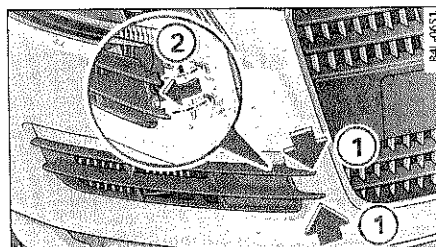

Fig. 320 Right front bumper: Removing the air intake grill
- Press the upper tab down and the lower tab up ⇒ fig. 320 ①.
- Pull the grill forward and out ②.